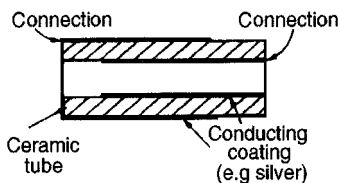
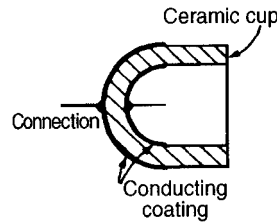
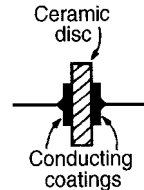

Figure 6.16
Figure 6.17
Figure 6.18
4. Ceramic capacitors. These are made in various forms, each type of construction depending on the value of capacitance required. For high values, a tube of ceramic material is used as shown in the cross section of Fig. 6.16. For smaller values the cup construction is used as shown in Fig. 6.17, and for still smaller values the disc construction shown in Fig. 6.18 is used. Certain ceramic materials have a very high permittivity and this enables capacitors of high capacitance to be made which are of small physical size with a high working voltage rating. Ceramic capacitors are available in the range 1 pF to 0.1 μ F and may be used in high frequency electronic circuits subject to a wide range of temperatures.